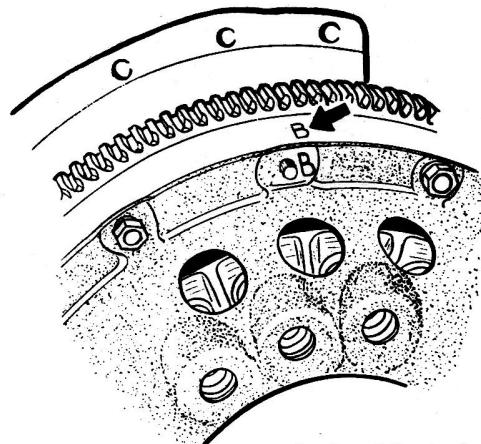

Fig.5.7. Balance marks on clutch and flywheel
- 2 Look for the balance marks stamped on the clutch housing and eel as depicted in Fig.5.7. If there are no marks make your own with a centre punch so that the clutch assembly can be replaced on the flywheel in its original position.